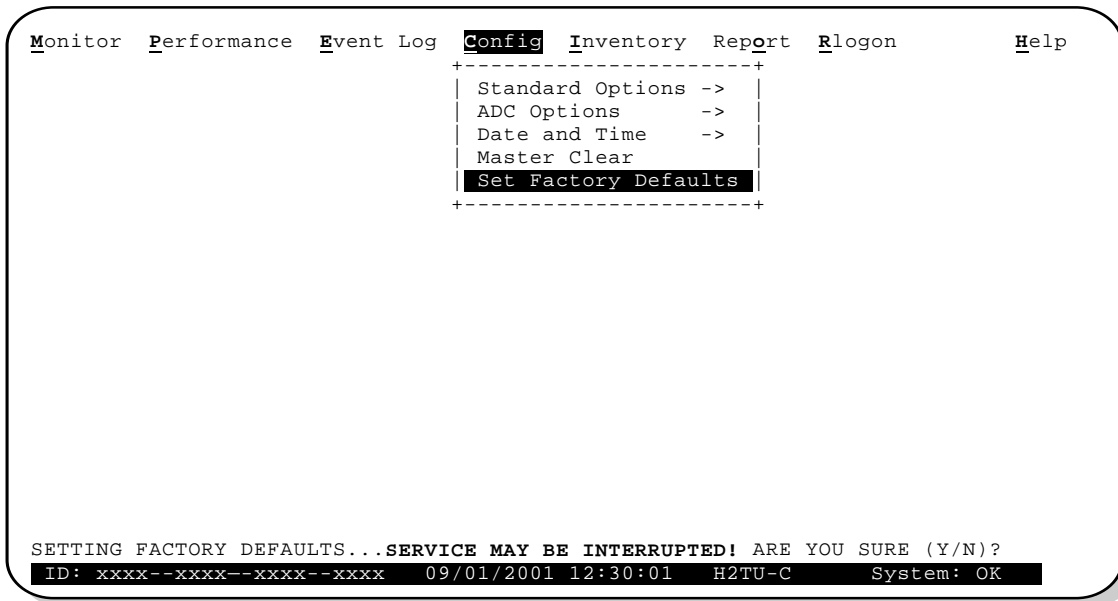

Figure 9. Config Menu - Set Factory Defaults
- 1 Press **C** to select the Config menu (see Figure 9).